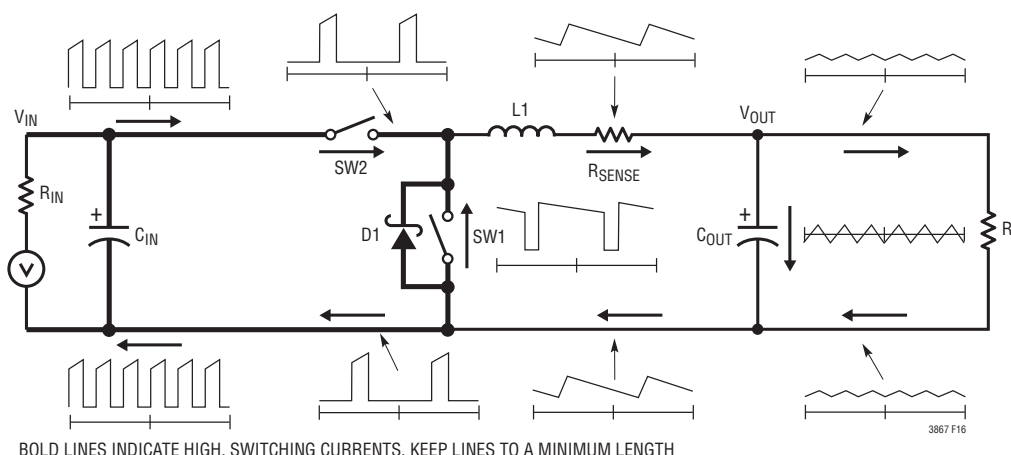

Figure 16. Branch Current Waveforms
When laying out the printed circuit board, the following checklist should be used to ensure proper operation of the IC. These items are also illustrated graphically in the layout diagram of Figure 16. Check the following in the PC layout:
7. The  $47\text{pF}$  to  $330\text{pF}$  ceramic capacitor between the  $I_{TH}$  pin and signal ground should be placed as close as possible to the IC. Figure 16 illustrates all branch currents in a switching regulator. It becomes very clear after studying the current waveforms why it is critical to keep the high switching current paths to a small physical size. High electric and magnetic fields will radiate from these *loops* just as radio stations transmit signals. The output capacitor ground should return to the negative terminal of the input capacitor and not share a common ground path with any switched current paths. The left half of the circuit gives rise to the *noise* generated by a switching regulator. The ground terminations of the synchronous MOSFET and Schottky diode should return to the bottom plate(s) of the input capacitor(s) with a short isolated PC trace since very high switched currents are present. External OPTI-LOOP® compensation allows overcompensation for PC layouts which are not optimized but this is not the recommended design procedure.